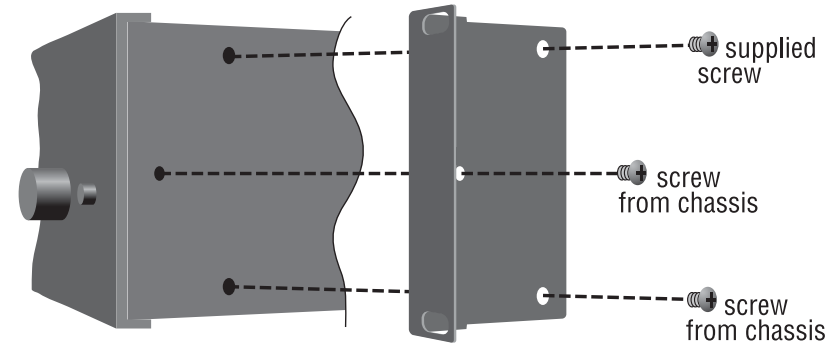

Figure 2.2 How to Connect Rack Ears
2. See Figure 2.2. Remove the two screws from each side of the chassis near the front.